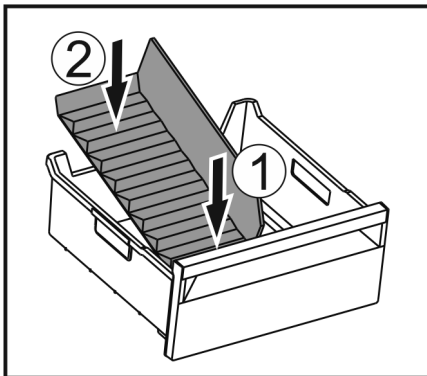

Fig. 164
- ▶ Insert the front part of the ice compartment divider. *Fig. 164 (1)*
- ▶ Lower the rear part of the ice compartment divider to the drawer bottom. *Fig. 164 (2)*